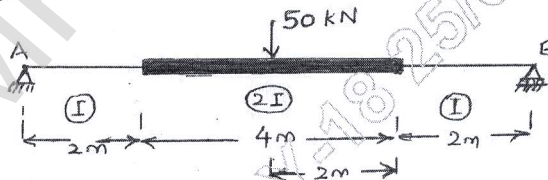

Fig.Q2(b)
- b. Determine slopes at the supports and deflection at the centre for the beam shown in Fig.Q2(b), using conjugate beam method. (10 Marks)